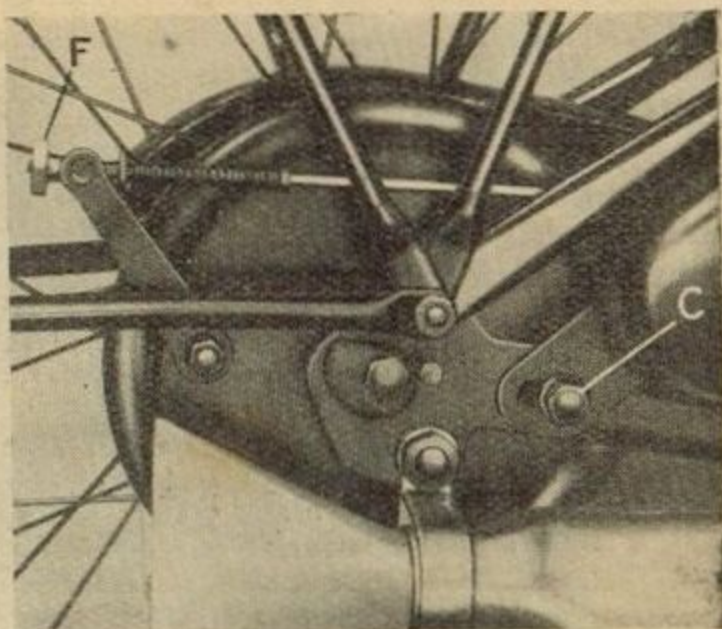
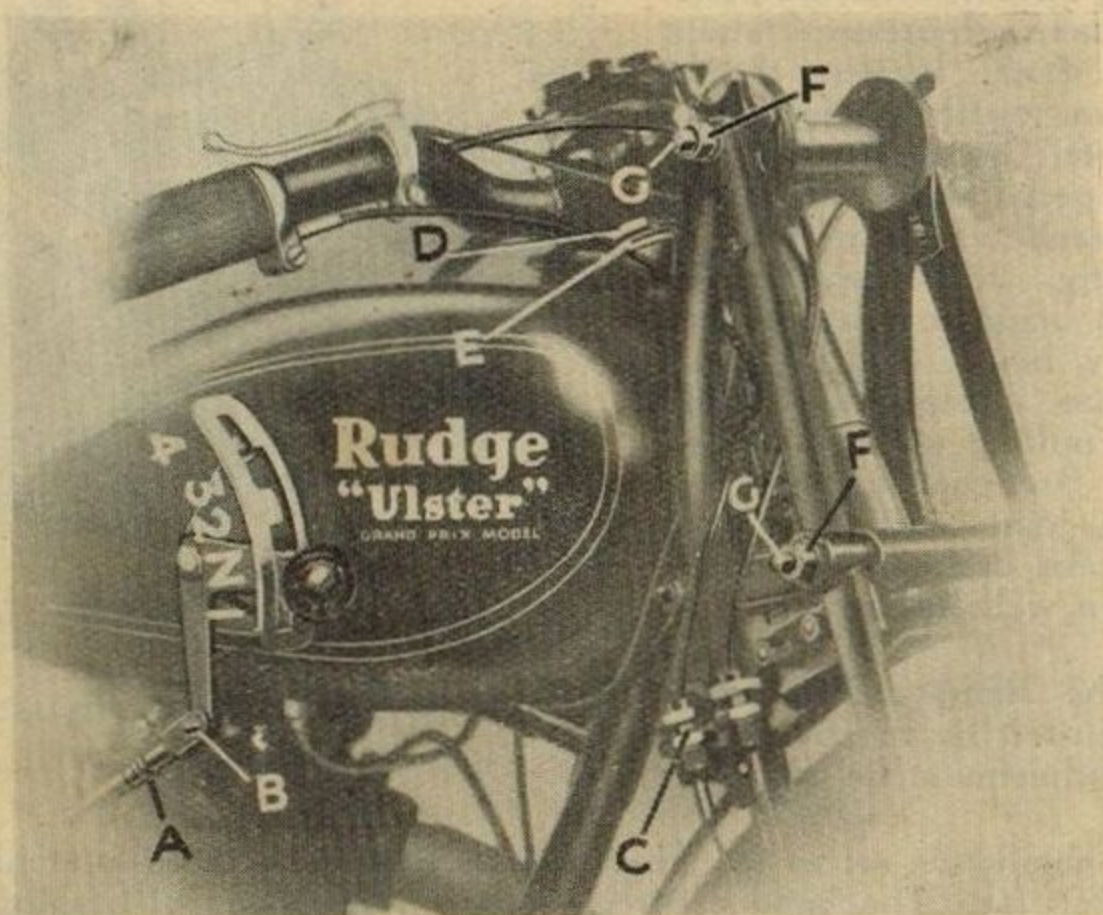

FIG. 16. REAR BRAKE ADJUSTMENT.
FIG. 17. THE GEAR LEVER AND STEERING HEAD.
To adjust the control engage either second or third gears and take out the pin (B, Fig. 17) by removing its split pin and washer; now hold the gear lever exactly central between the shoulders of the gate. The gears themselves will be held in their correct position by the locating mechanism inside the box. Now slip the yoke end of the control rod over the end of the gear lever and see whether the pin can be inserted; if not, slacken the locknut (A) and screw the yoke end either up or down the rod until the pin will slip into place. Tighten the locknut (A) and replace the washer and split pin securing the pin.
In the case of the 500 c.c. rear wheel, to remove, disengage the brake control by means of the quick release device (F, Fig. 16), undo the knock-out spindle nut (left side) and remove the knock-out spindle
Place the machine on both front and central stands, see that the brake pedal is against its stop, and adjust the brakes by means of the nut (F, Fig. 16) and the hexagon headed adjustable stop and locknut (C, Fig. 17) so that the brakes start to operate after the pedal has been depressed about $\frac{1}{2}$ in. Both brakes should come on together, which may be tested by depressing the brake pedal slowly and spinning each wheel in turn. If anything, the front brake should begin to operate very slightly before the back, as this has a steadying effect when pulling up on a greasy road. See that all exposed cables, joints and threads of the brake operating mechanism are well lubricated.
Play in the spring forks or steering head of any machine will soon upset its steadiness at speed, so from time to time the machine should be jacked up on its central stand with a box under the crankcase and the forks and steering head tested for play by shaking the front wheel backwards and forwards. To adjust the steering head slacken the steering damper right off, slacken locknut (D, Fig. 17) and tighten nut (E), using the C spanner in the tool kit. For correct adjustment the steering head should be absolutely free, yet without trace of play. Before finally testing, tighten locknut (D), since this may affect the adjustment. Turn the bar from side to side. If there is a tendency to remain in a